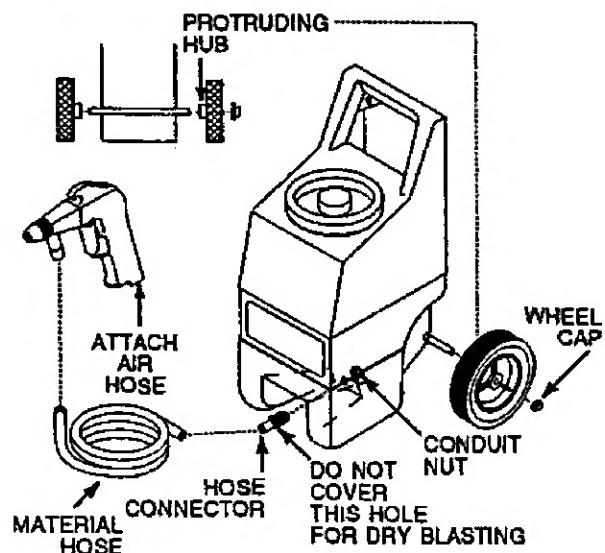

Figure 6 – Model AT121102AJ - 120 LBS
3. Attach the material hose to the hose connector. Attach the opposite end of the material hose to the gun (See Figure 6).
1. Slide the wheel onto the axle and lightly hammer on the wheel cap. Make sure the protruding hub on the wheel is facing the hopper (See Figure 6). Repeat for the opposite side.